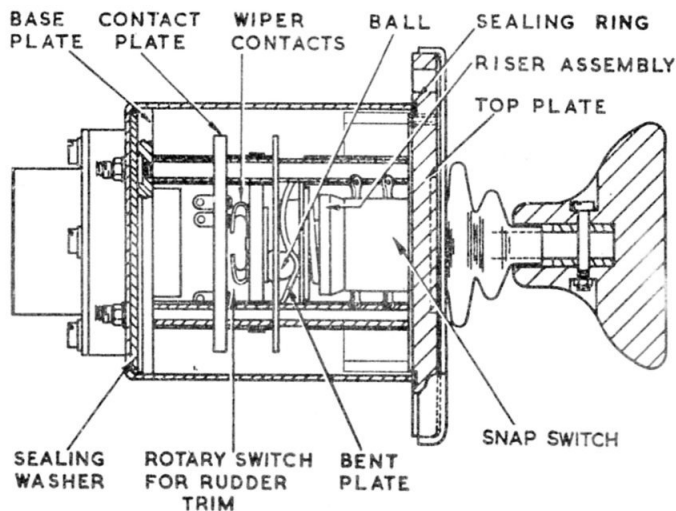

Fig. 2. Sectional view of trim switch
2. The trim switch (fig. 2) consists of a hand control knob fastened to a shaft which has a universal coupling on its end. Movement of the shaft vertically or sideways moves a cruciform gate which operates two pairs of switches, one pair for aileron trimming and the other pair for elevator trimming. A rotary switch consisting of stud contacts secured in a contact plate, and wiper contacts attached to the end of the control shaft, is used for trimming the rudder. Rotary movement of the control knob turns the wiper contacts to engage with the stud contacts. All the switches are double-pole with silver contacts.